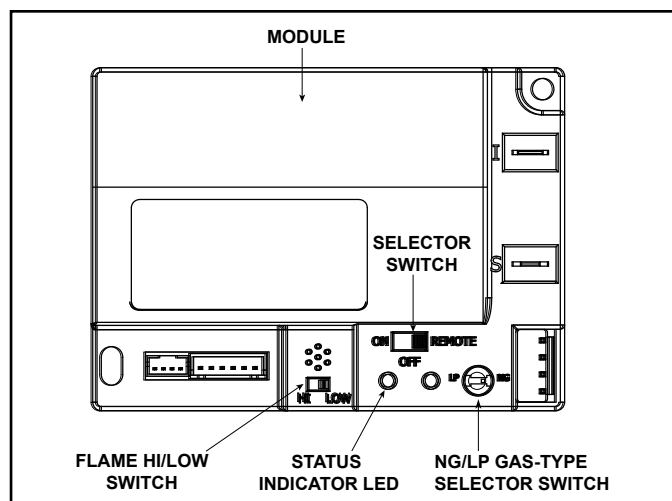

Figure 8.5 - Control Module
1. The control module has an ON/OFF/REMOTE selector switch that must be set. See Figure 8.5.
2. If using a wired wall switch with the module in REMOTE mode, the flame output can be adjusted with the HI/LO selector switch on the module. See Figure 8.5. Note that the flame HI/LO selector switch will become inactive once a remote control (RC300) is programmed to the control module. Note that the control module will always ignite the fireplace on HI and remain so for the initial 10 seconds of operation. If the HI/LO is switched to the LO position, the flame output will automatically drop to the lowest setting after the flame has been established for 10 sec. After this 10 second period, the flame can be adjusted from HI to LO with the switch.